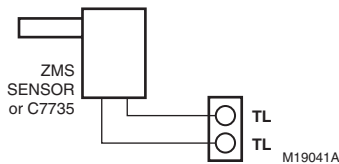

Fig. 9. ZoneMAX or C7735 Sensor wiring diagram.
3. Connect the ZMS (not supplied) to the TL terminals. The wires are not polarized. See Fig. 9.
The ZMS (not included) is a duct-mounted temperature probe that monitors the supply of air temperature to control capacity and prevent over-heating or coil icing. The sensor attaches to the TL terminals at the upper left corner of the panel. See Fig. 9.